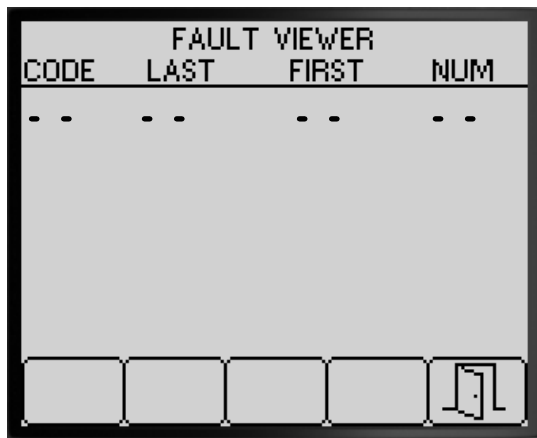

Figure 87
- Review the fault viewer for sprayer system generated faults (Figure 87).
4. Press button 5 to exit the FAULT VIEWER screen, and return to the DIAGNOSTIC screen (Figure 87).
4. Press button 5 to exit the ABOUT screen, and return to the DIAGNOSTIC screen (Figure 87).